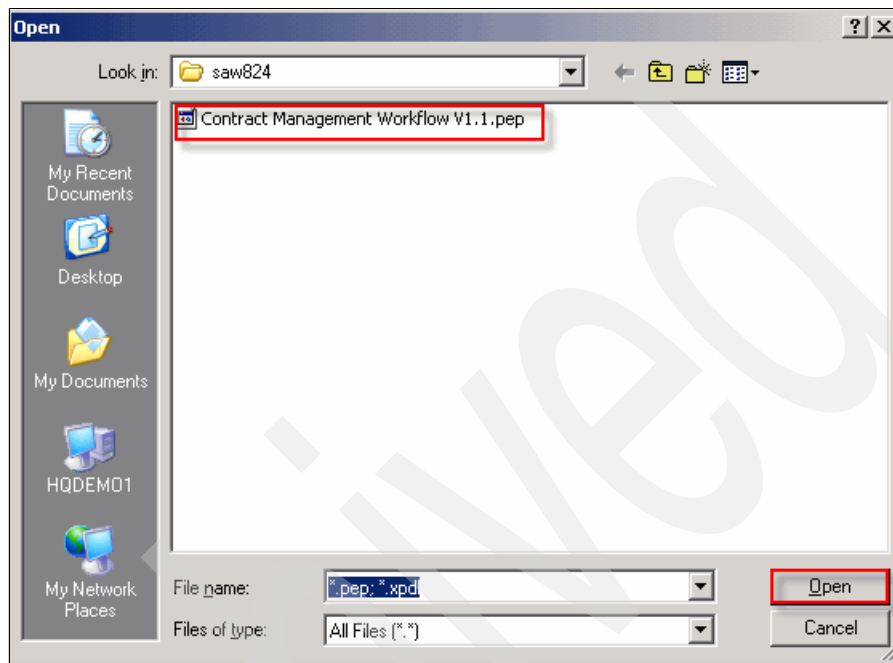

Figure 7-41 Open file window
4. In the Open panel (Figure 7-41), select **Contract Management Workflow v1.1.pep**, which is supplied with the additional materials for this book. See Appendix B, “Additional material” on page 801, for details. Click **Open**.